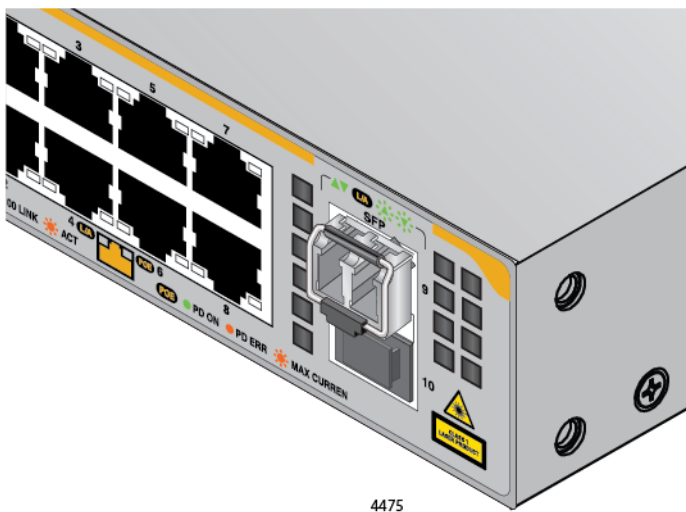

Figure 24. Position SFP Handle in Locked Position
6. Verify that the SFP handle is in the locked position. If the transceiver is in a top slot, the handle should be in the upright position. Refer to Figure 24. If the transceiver is in a bottom slot, the handle should be in the down position.